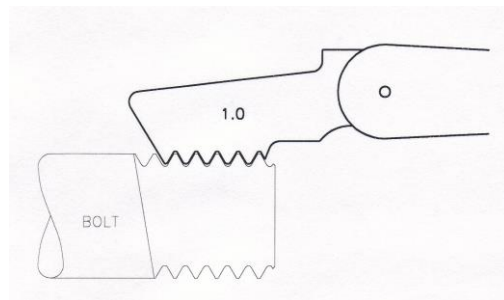

Figure 1 - Screw pitch gauge.
2. A screw pitch gauge is a gauge used to determine the pitch of vee threads on threaded fasteners or other components which have vee threads. They are packaged in sets of about 20-30 gauges and are used as shown in Figure 1. The individual gauges in the set close up to form a compact unit for convenient storage.